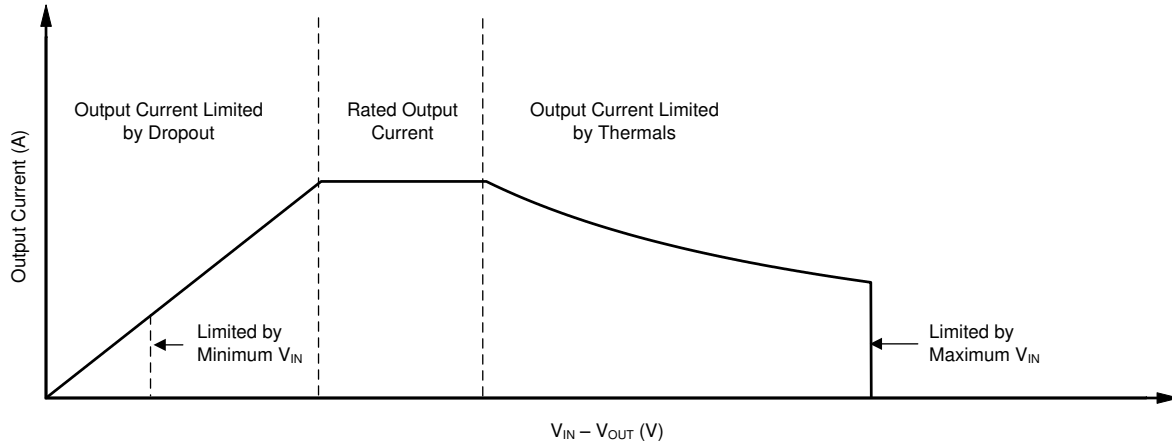

Figure 8-3. Continuous Operation Diagram With Description of Regions
The operational area of an LDO is limited by the dropout voltage, output current, junction temperature, and input voltage. The recommended area for continuous operation for a linear regulator is illustrated in Figure 8-3 and can be separated into the following regions:
- Figure 8-3 provides the shape of the slope. The slope is nonlinear because the maximum rated junction temperature of the LDO is controlled by the power dissipation across the LDO; thus, when $V_{IN} - V_{OUT}$ increases the output current must decrease.